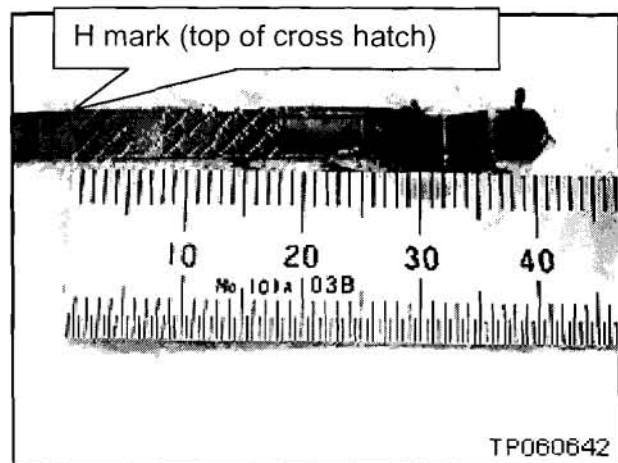

Figure B1
2. Write down the exact oil level reading using the engine dipstick and ruler (see Figure B1).
- The example in Figure B1 shows the oil level is 8mm below the H mark.